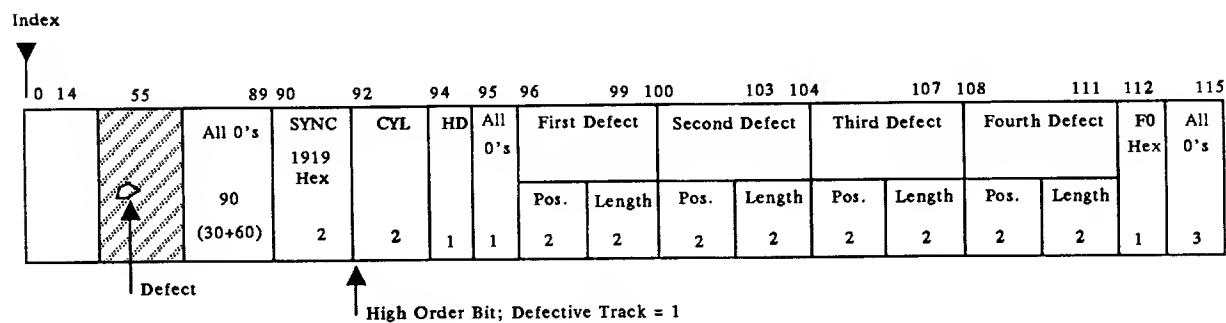

Figure 8-2. Extended Defect Map Format
7. Figure 8-2 shows the format when the beginning of a defect is located between Bytes 10 and 55; the 753 adds 60 bytes of zeros to Gap 1. In the extended defect map format, the 753 always relocates the defect map to a defect-free area.